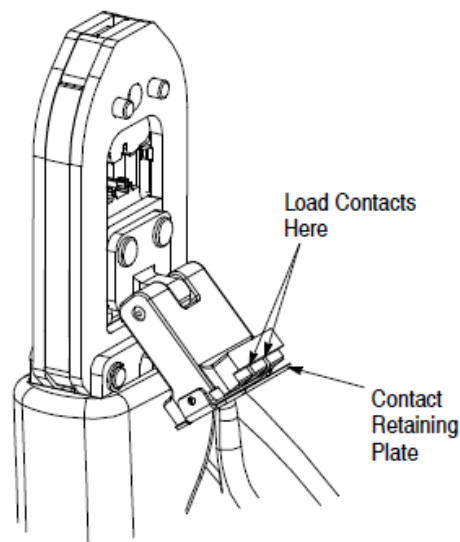

Figure 3
3. Be sure the flip locator is in the load position (see Figure 3). Hold the contact by the wire and insulation barrel, push the contact retaining plate and insert the contact receptacle into the flip locator so that the top of the contact (opening for the wire) faces away from the tool. Be sure to insert the contact in the proper nest according to the wire size on the front of the tool. Once the contact is loaded, release the contact retaining plate and flip the locator up 90 degrees.